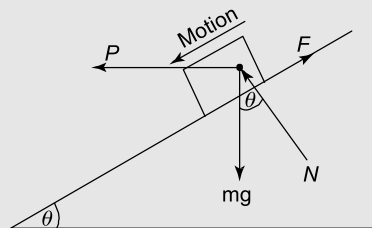

Figure 17.10
Problem 10. If the mass of Problem 9 were subjected to a horizontal force P , acting down the plane, as shown in Figure 17.10, determine the value of P which will just cause motion down the plane.
10. Determine P for Problem 6, if it were acting in the direction shown in Figure 17.10. [$P = 15.43 \text{ N}$]